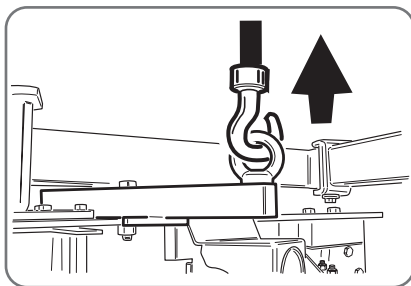

Fig. 3.2
- secure by means of the lifting bracket (Fig.3.2).